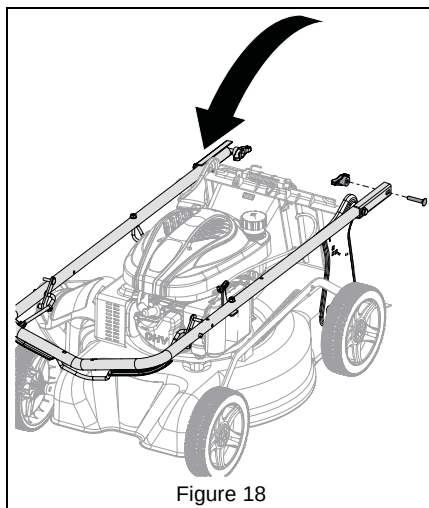

Figure 18
- For storage, rotate handlebar completely forward and reinstall hardware. See Figure 18.